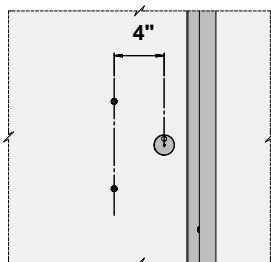

Fig.29
- Take the pull handle male assembly and guide the threaded post through each drilled pilot hole, then position the pull handle female assembly on the opposite of the material and secure both assemblies by rotating the post. **Fig.29.**